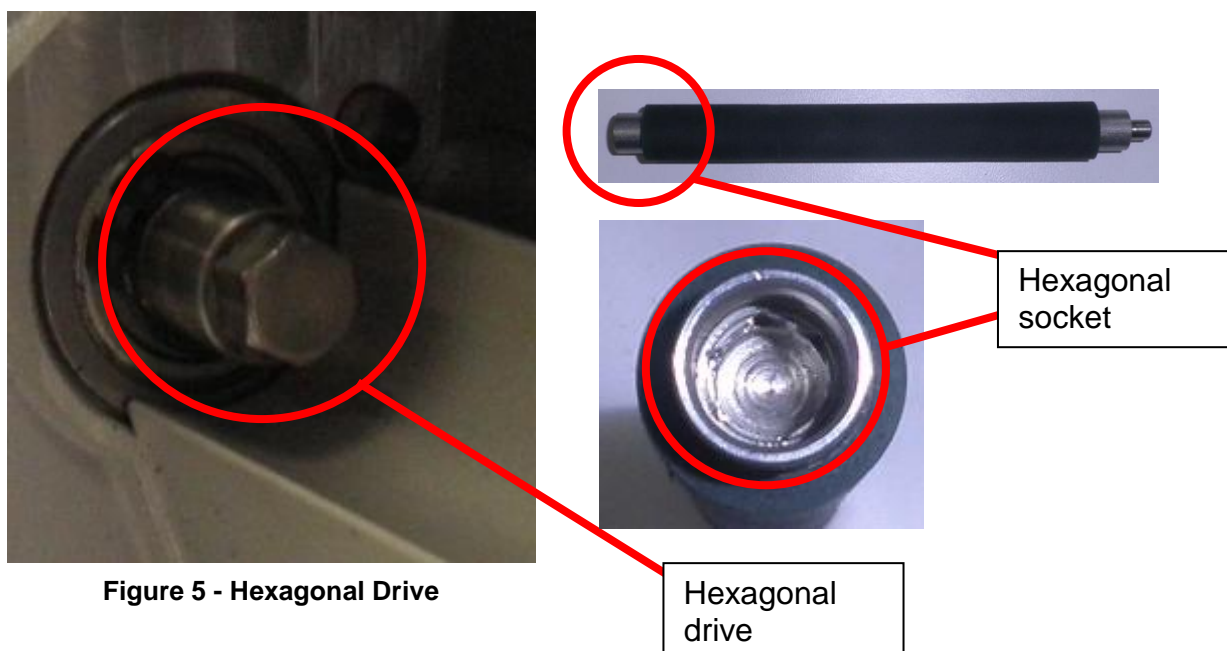

Figure 5 - Hexagonal Drive
4.1. The Drive roller cannot be re-fitted correctly if the Hexagonal drive and Hexagonal socket are not aligned, see Figure 5.